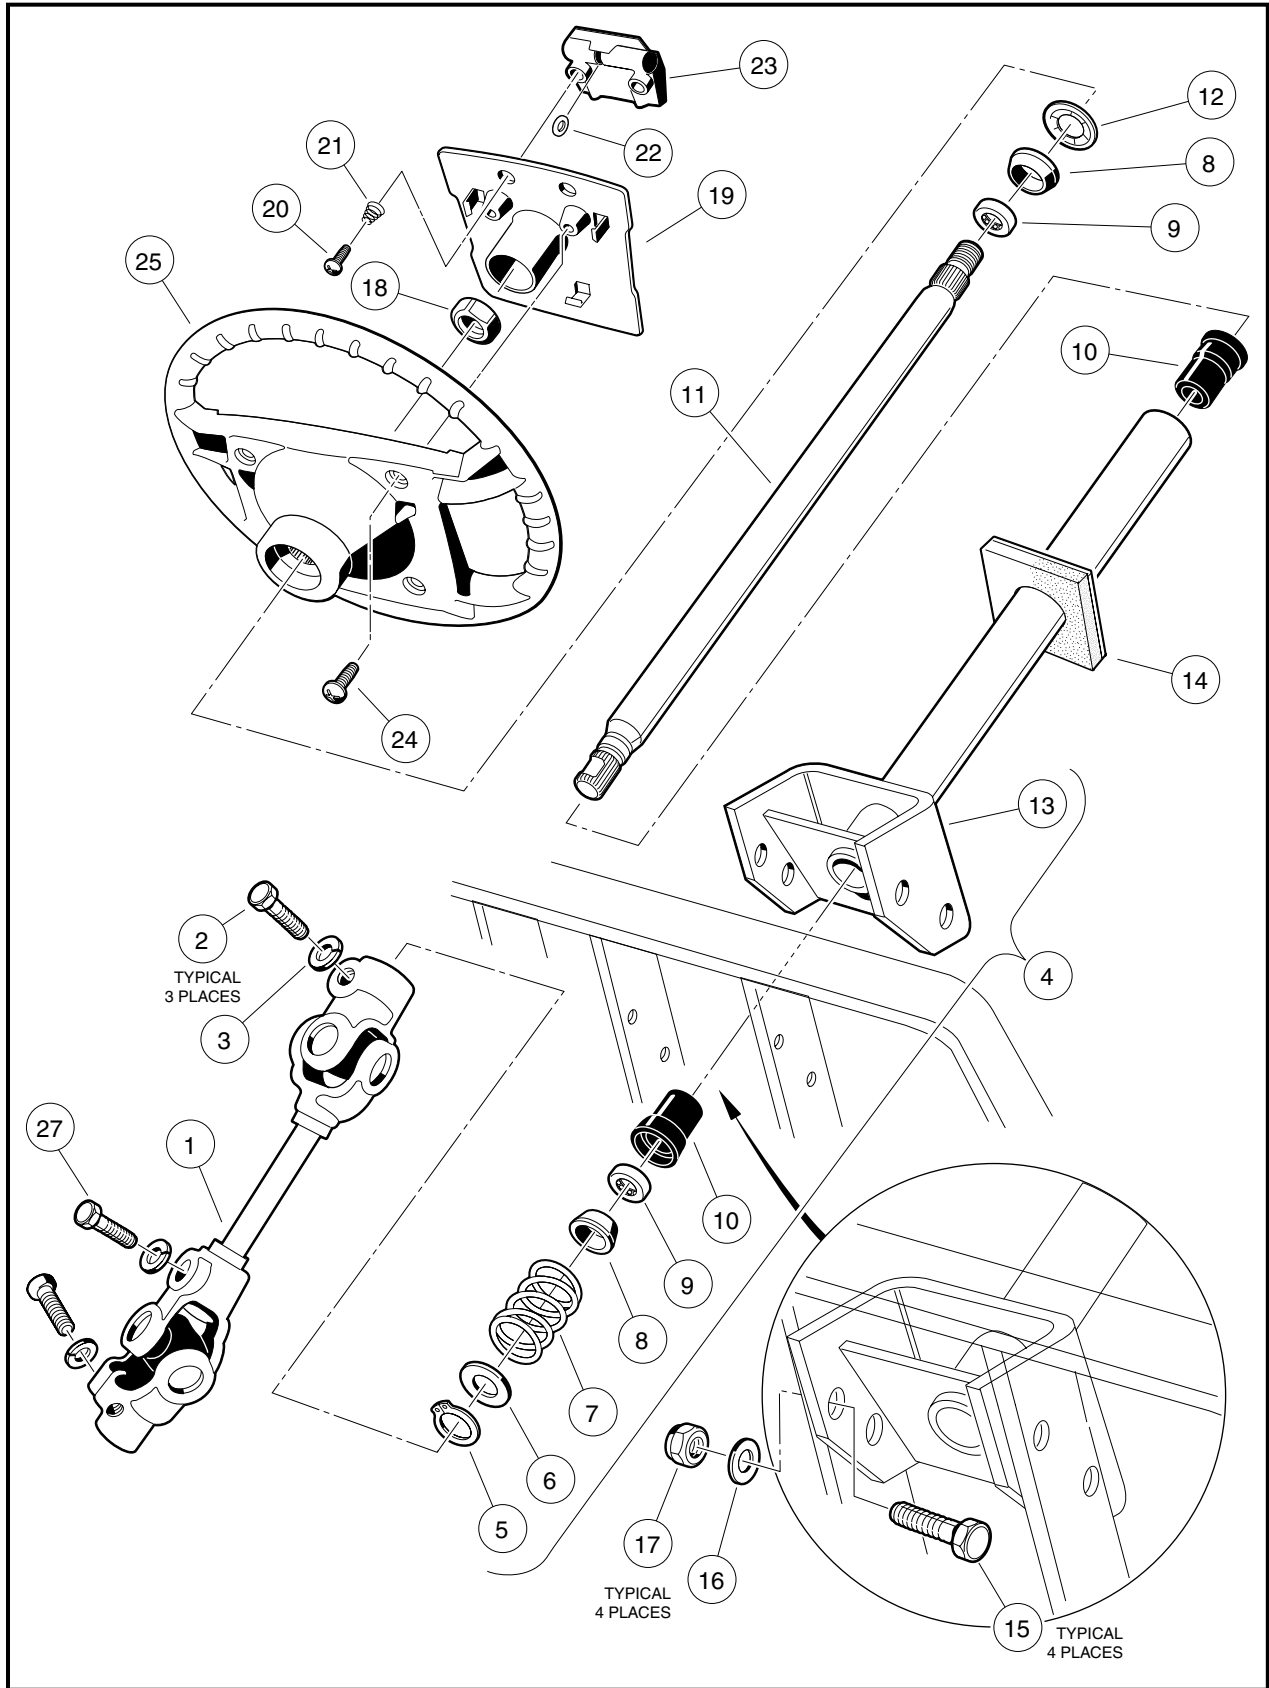
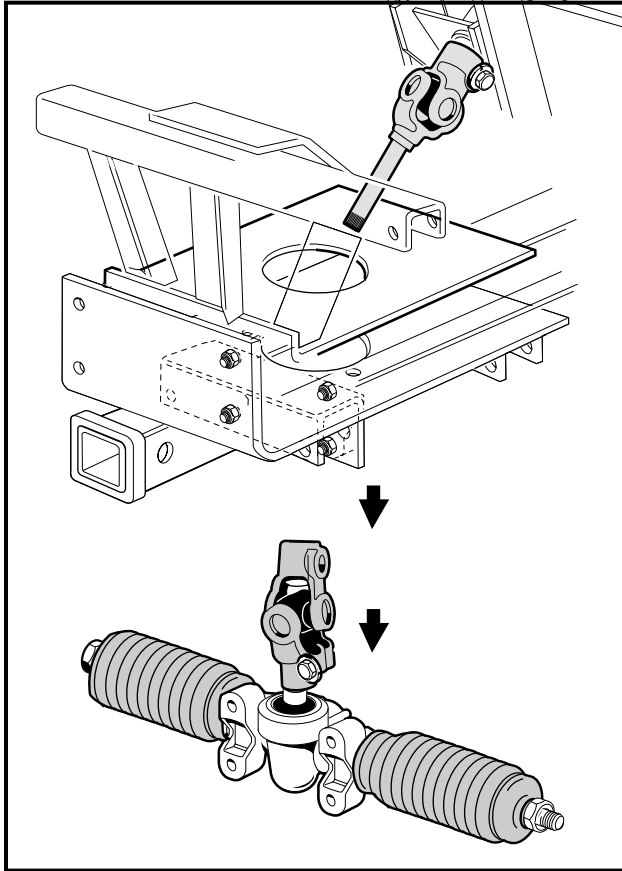

Figure 7-1 Steering Column
Figure 7-8 Remove Rack and Pinion
5. Remove the two mounting screws (24) and plate (19) (**Figure 7-1, Page 7-3**).
6. Match mark the steering wheel (25) and steering column shaft (11) so that reattachment of the steering wheel will be in the exact same position.
7. Loosen the steering wheel nut (18) and back it off approximately 1/4 inch (6 mm). Do not remove the nut.
- 8.6. Remove the steering wheel nut (18) and the steering wheel from the steering column (14) (**Figure 7-1, Page 7-3**).
1. Install the steering wheel (25) on the splines of the steering shaft (11). Be sure to align the match marks placed on the wheel and steering column shaft in step 6 above (**Figure 7-1, Page 7-3**).
2. Install the steering wheel nut (18) and tighten to 13 ft-lb (17.6 N·m).
3. Install the steering wheel plate (19) and plate mounting screws (24) (**Figure 7-1, Page 7-3**). Tighten screws to 16 in-lb (1.8 N·m).
9. Remove the nuts (17), bolts (15), and washers (16) from the steering column mount (13) (**Figure 7-1, Page 7-3**).
1. While supporting steering column (13) on a workbench, remove snap ring (5) from shaft (**Figure 7-1, Page 7-3**).
2. Remove the washer (6), spring (7), and wedge (8) (**Figure 7-1, Page 7-3**).
3. Turn the steering column over and slide the shaft out of the tube to expose the retaining ring (12). Use pliers to twist the retaining ring (12) until it breaks off, then remove the wedge (8).
4. Remove the shaft (11) from the bottom of the tube (13).
5. Use steering shaft (11) to push bearing seat (10) out from the opposite end of the steering tube (13).
6. Insert a flat blade screwdriver between the bottom of the outer race of the bearing (9) and the bottom lip of the bearing seat (10) and remove the bearing (9).
4. Insert the shaft (11) from the bottom of the steering tube (13) (**Figure 7-1, Page 7-3**).
1. Install boot (14) (if previously removed) (**Figure 7-1, Page 7-3**).
3. Position the steering column assembly in the vehicle while inserting the steering column shaft into the upper steering universal joint (1). The flat portion of the steering shaft spline (11) must be aligned with the bolt hole in the steering universal joint (1) before sliding the spline into place (**Figure 7-1, Page 7-3**).
5. While holding the steering column in place, attach it to the frame using bolts (15), washers (16) and lock nuts (17) (**Figure 7-1, Page 7-3**). Tighten the four bolts, in a crisscross pattern to 23 ft-lb (31.2 N·m).
6. Tighten the bolt (2) on the upper steering universal joint (1) to 15 ft-lb (20 N·m) (**Figure 7-1, Page 7-3**).
7. Check the other bolts on the lower steering universal joint assembly (1) to ensure that they are properly tightened to 15 ft-lb (20 N·m) (**Figure 7-1, Page 7-3**).
6. Remove the bolt (27) and lock washer (**Figure 7-1, Page 7-3**) from the universal joint, then remove the rack and pinion assembly and universal joint from the vehicle (**Figure 7-8, Page 7-9**).